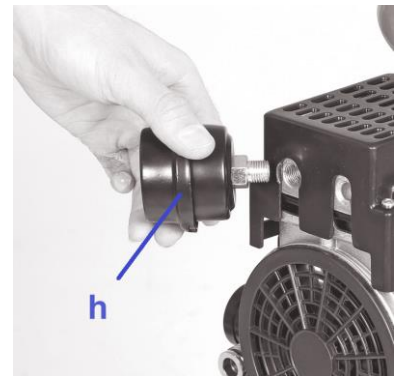

Fig. 4
- Fit the air intake filter as shown in Fig. 4.